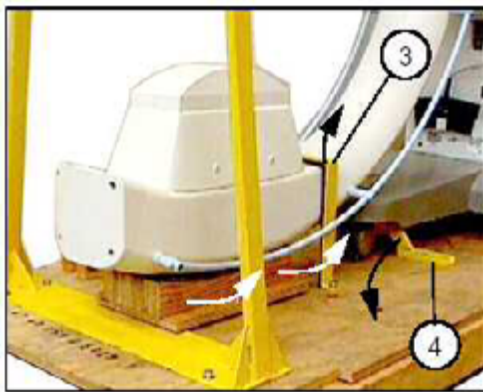

Fig. 8: Retaining clamp_3_4
- Unscrew and remove the retaining clamp (3/Fig. 8 / p. 7) and holding block at the tube.
- Unscrew, tilt, and remove the retaining clamp (4/Fig. 8 / p. 7).